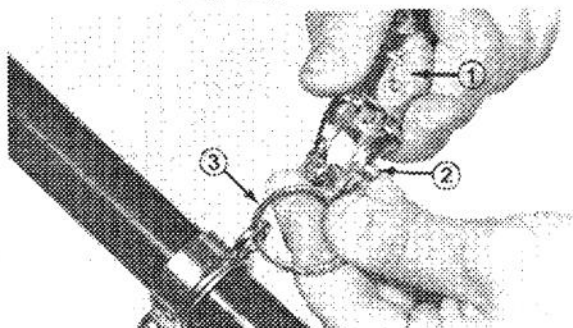

Figure 23
2. Pull slide up on belt hook assembly, slip harness hook through ring in hanger ring, rotate up to closed position and release slide to lock harness hook (Fig. 23).